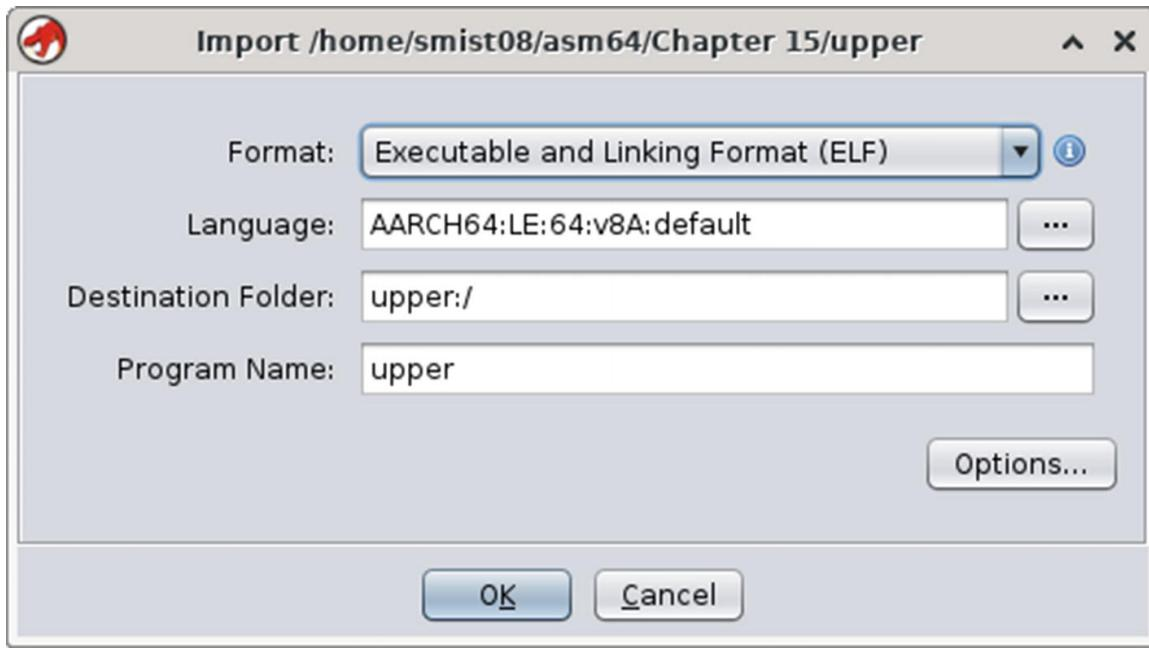

Figure 15-1 High-level information on the upper executable
1. Create a project in Ghidra, import our upper program, and we get an information dialog shown in Figure 15-1.